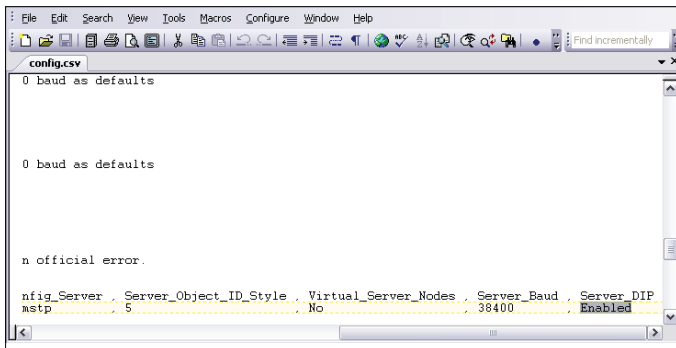

Figure 17: Changing the 'Server_DIP' parameter
The config.csv file's 'Server_DIP' parameter will default to 'Enabled' which will allow the System_Node_ID (BACnet MAC Address) and Node_ID (Device Instance) to be set using the DIP Switches on the module. See **Figure 17** on **page 12**. With this capability, RUINET is not needed for the initial configuration. Set the DIP Switches, power up the PT-Link II, wait 4 minutes, and your PT-Link II BACnet is ready.
11.) Inside the text file under 'Connections', you must change the 'Server_DIP' parameter from 'Enabled' to 'Disabled' and then you can use RUINET to configure the addresses and baud rate. (See **Figure 17**).